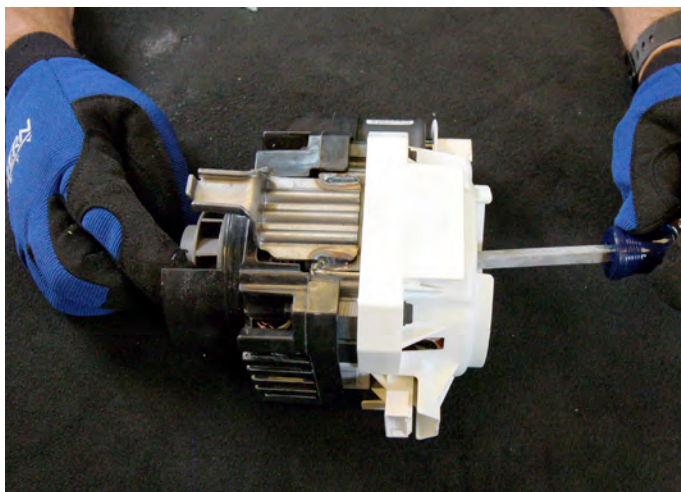

Figure 9
11. To remove the impeller; insert a screwdriver into the motor housing vent to prevent the rotor from turning. Firmly grasp the impeller with the other hand and spin it off the motor shaft. See Figures 9 & 10.